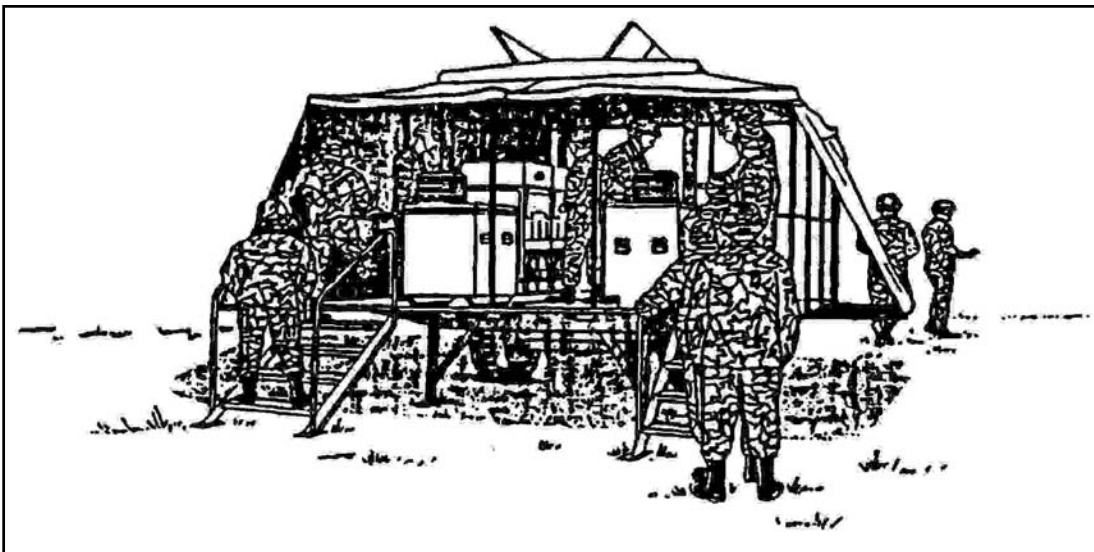

Figure 3-34. Trailer-mounted Field Kitchen With Two Serving Lines
- (4) Two serving lines (MKT) (see Figure 3-34, page 3-92).